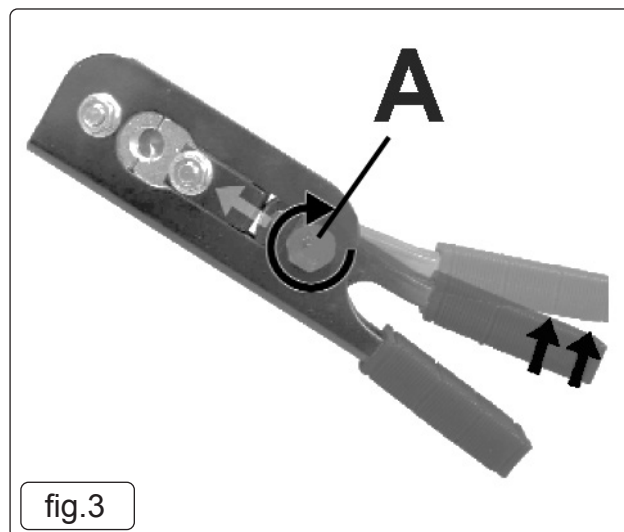

fig.3
- 4.3. Grip the clamp firmly to ensure that the pipe does not slip. Should the hold appear insufficient, turn the cam pivot adjustment (fig.3.A), thereby repositioning the clamp handles allowing more pressure to be exerted.